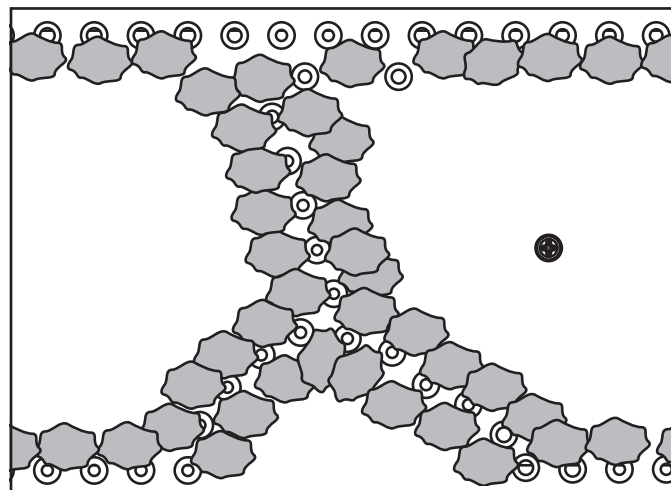

Figure 14.3 Embers Overlapping Burner Port Holes (LP only).
- **LP Only:** Using dime-size pieces of Glowing Embers®, overlap the burner ports (see Figure 14.3). The impingement created by the embers will help blend the fire.